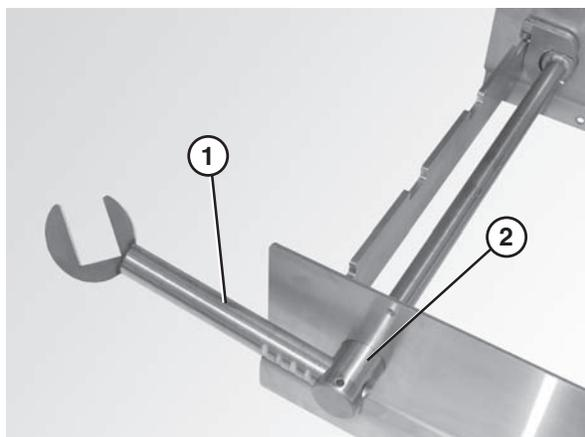

Figure 29
3. Attach the nose bar idler shaft hands (**Figure 29, item 1**) to the tip up shaft (**Figure 29, item 2**).